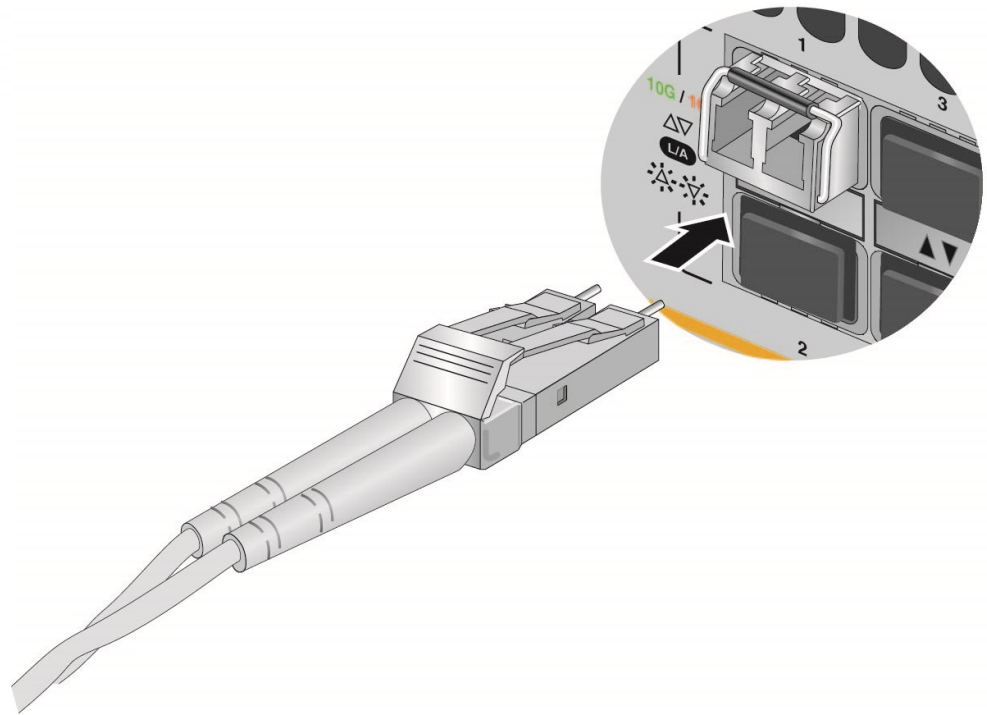

Figure 68. Connecting a Fiber Optic Cable to an SFP or SFP+ Transceiver
8. Connect the fiber optic cable to the transceiver, as shown in Figure 68 on page 113. The connector on the cable should fit snugly into the port, and the tab should lock the connector into place.